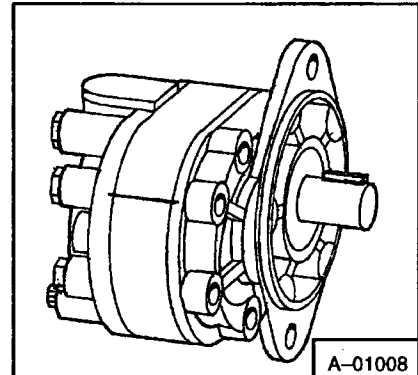

Fig. 4-39 Marking Pump Sections
2. Clean outside of pump. Put marks in a line across edges of cover, gear plate and body (Fig. 4-39).
9. Check marks on side of plates when installing, to be sure they are in alignment (Fig. 4-39).